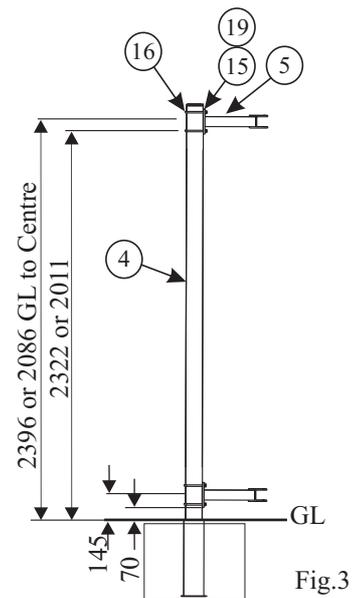

Fig.3
2 Insert the Support Posts (4) into the Sockets and fix the Support Arms/Post Hinges (5) to the Posts using M10 Nuts (15), Washers (19) and U-Bolt (16), positioning the Arms so that the Arm Plate is 70mm and 2321mm (for FBL-613/615/713/715) or 2011mm (for FBL-614/616/592/593/714/716) respectively from Ground Level (as shown in Fig 3).